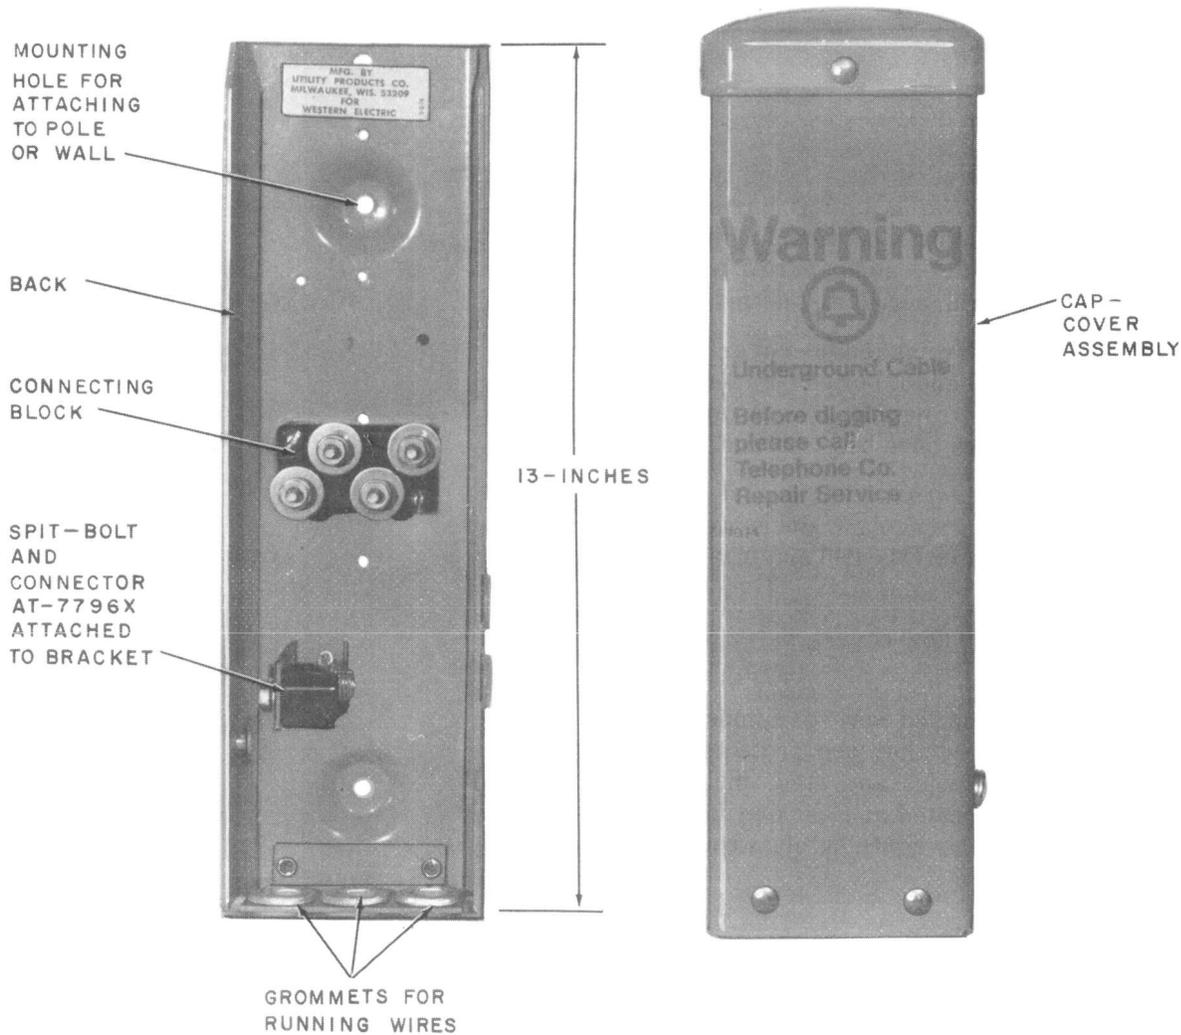

Fig. 2—E Wire Terminal
2.02 The E buried wire terminal (Fig. 2) is for pole or wall mounting. It consists of a 13-inch back, cap-cover assembly, two pair connecting block, an AT-7796X connector, and a split-bolt clamp.